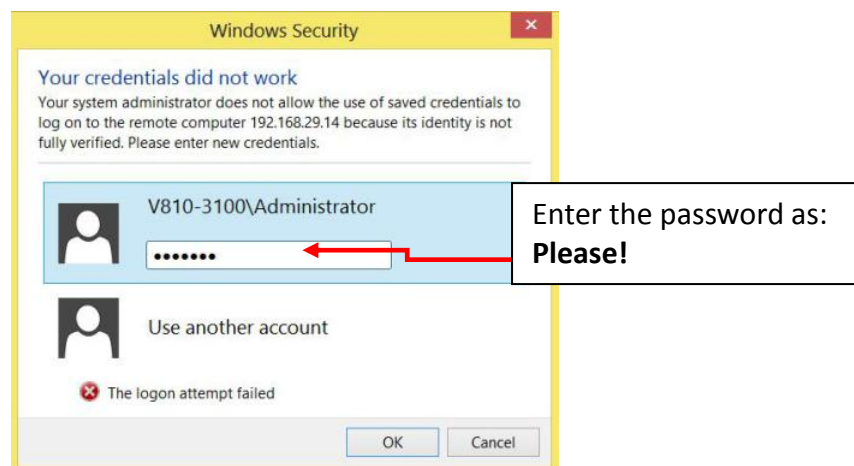

Figure 12 Password for Atom PC
22. Enter the password as “Please!” as shown in Figure 12.